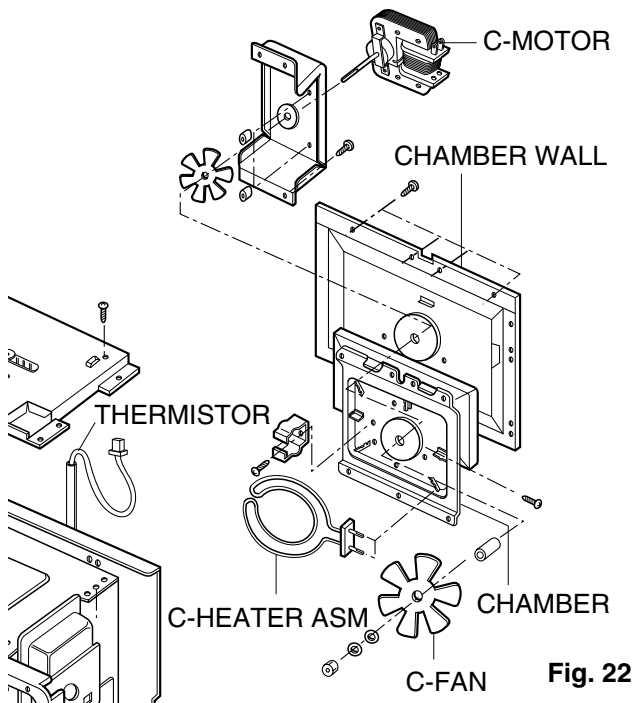

Fig. 22
I. REMOVING CIRCULATION MOTOR (FIG. 22)
- (1) Disconnect the wire leads from the circulation motor terminal.
- (2) Remove the screws securing the supporter bracket, insulator-R and the chamber gross assembly to the oven cavity.
- (3) To remove the chamber gross assembly, lift the chamber gross assembly up.
- (4) Remove one hex nut securing the circulation fan to shaft of the circulation motor.
- (5) Remove three screws securing the motor bracket to the chamber.
- (6) Remove two hex nuts securing the circulation motor to the motor bracket.
J. REMOVING CONVECTION HEATER AND THERMISTOR (FIG. 22)